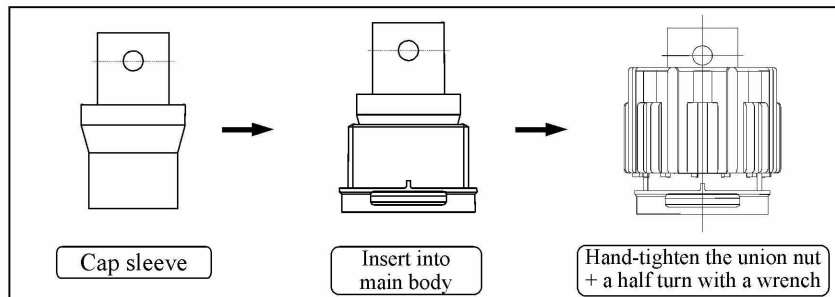

Fig. 10 - Installing the cap sleeve (6 - 25, W2 - W8)
- Hand-tighten the union nut and then turn the nut a half turn with a wrench (see Fig.10 and Table 7).